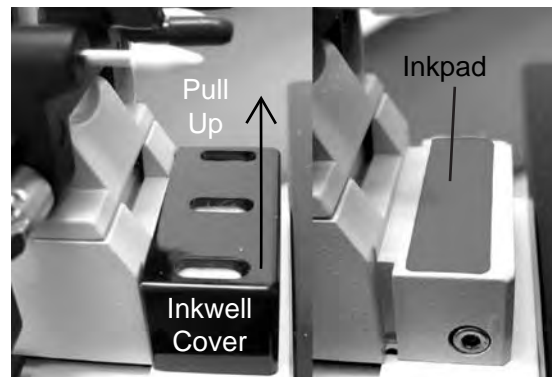

Figure MM-02 Remove and Refill Inkwell
2. Remove the Inkwell Cover by pulling it straight up. Refer to Figure MM-02.